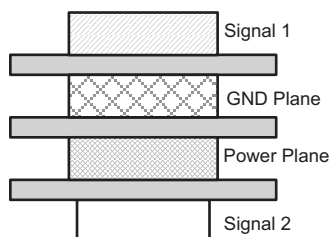

Figure 24. Four-Layer Board Stack-Up
- Due to high-frequency signal traces, TI recommends a printed-circuit board with at least four layers; two signal layers separated by a ground and power layer as shown in Figure 24.